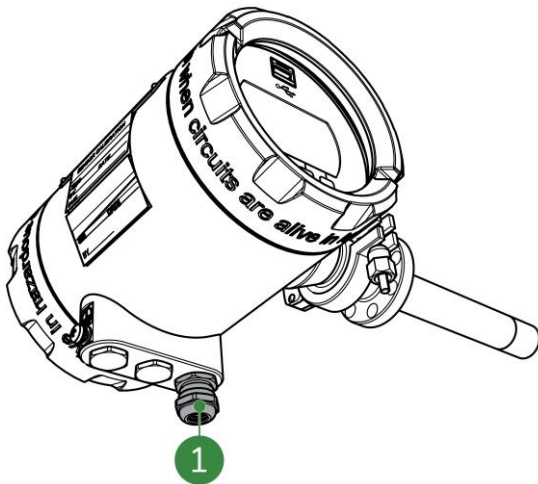

Figure 8-4: 4 – 20 mA cable
2. Remove the 4 to 20 mA cable (Figure 8-4, pos. 1).